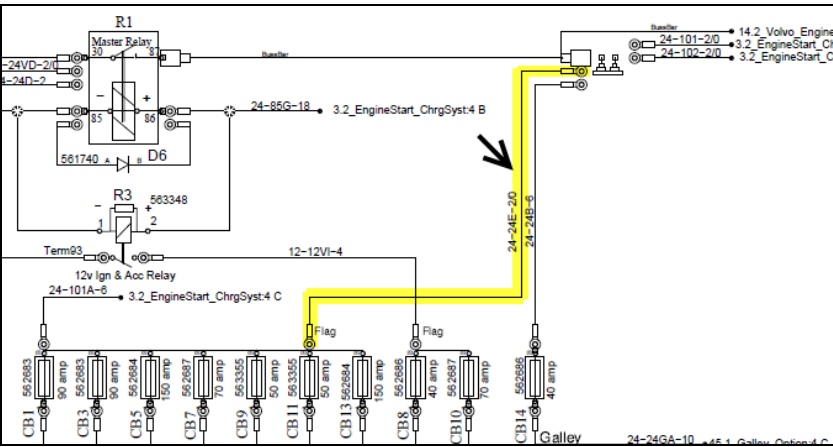

Figure 8
- Between **Bussman junction block** and **main circuit breaker bus bar** (Figure 8).